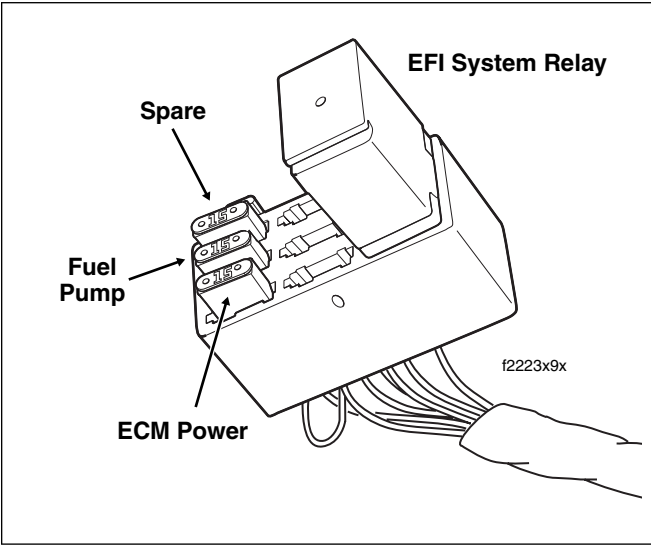

Figure 5-31. EFI Fuse Block
See Figure 5-31. The fuel pump fuse is located in the fuse block under the right side cover. The fuel pump can be turned on with the Scanalyzer or by applying battery voltage to the fuel pump fuse.
- a. See Figure 5-31. Pull the fuel pump fuse from the EFI fuse block.
7. See Figure 5-31. Install fuel pump fuse.